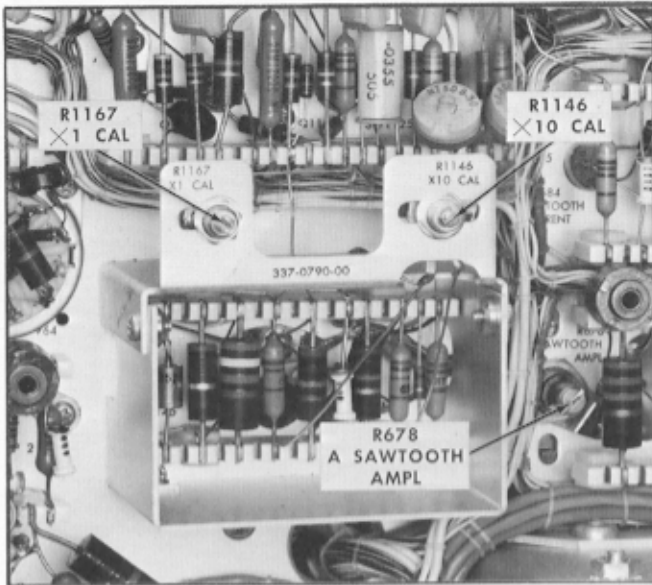
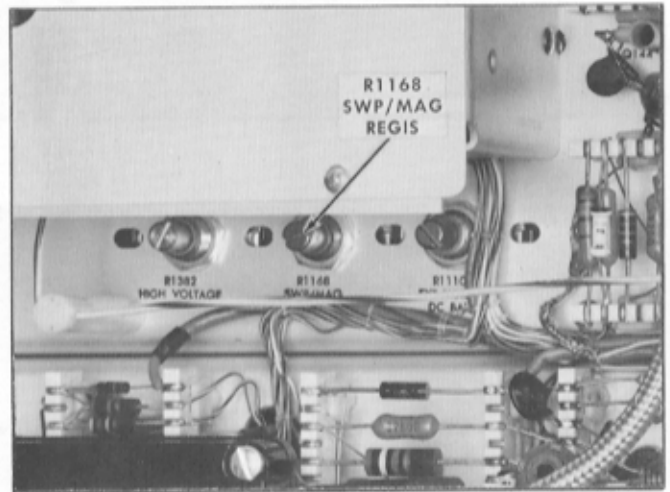

Fig. 6-33. Adjustment location for A sweep basic timing and sawtooth amplitude.
Fig. 6-34. Adjustment location for Upper Beam sweep magnifier registration.
- h. Adjust R1146 (see Fig. 6-33) for one 100-microsecond marker/cm.
- k. Adjust R1167 for one 1-millisecond marker/cm. See Fig. 6-33; R1167 is located adjacent to the $\times 10$ CAL control R1146.
37. Adjust Upper Beam Sweep Magnifier Registration ①
- d. Adjust R1168 (Fig. 6-34) to position the start of the trace to the graticule center line.
38. Adjust A Sweep Sawtooth Amplitude ①
- c. Adjust R678 (see Fig. 6-33) so that the trace ends as the 22nd marker becomes visible. The sweep length is 10.5 cm.